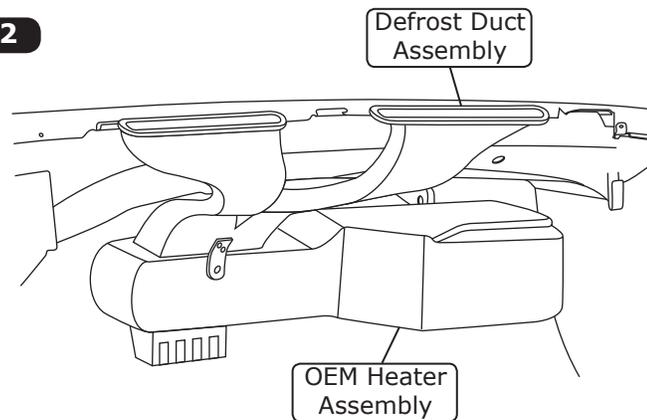

Figure 3
8. Remove OEM defrost duct assembly by removing the (4) screws (See Figure 3, below).
9. Remove OEM heater assembly (discard). See Figure 3, below.